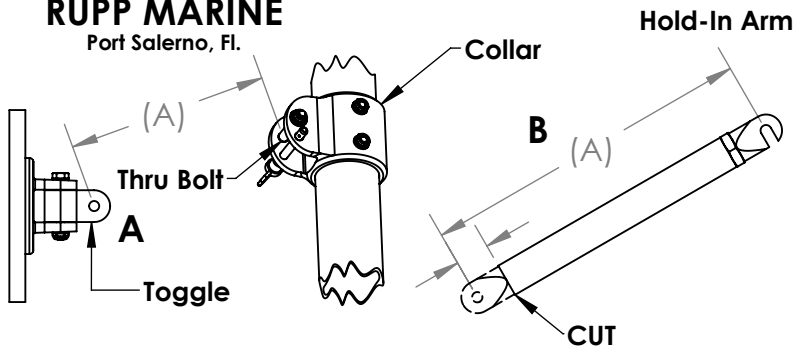

FIG. 9
E- Turn ears of collar directly at toggle plate and measure distance from center line to thru bolt on collar to hole in toggle. See FIG 9 at A. Cut hold-in arm to size, distance (A) minus clevis. See FIG 9 at B